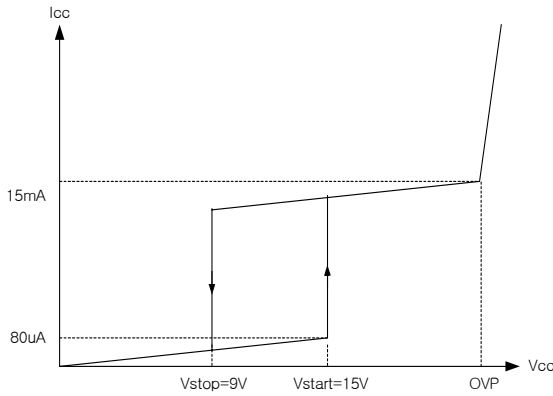

Figure 1. Start up with hysteresis
**1. Start up :** To guarantee stable operation of the control IC, FS8S0765RCB has UVLO circuit with 6V hysteresis band. Figure 1 shows the relation between the supply current ( $I_{cc}$ ) and the supply voltage ( $V_{cc}$ ). Before  $V_{cc}$  reaches 15V, the FPS consumes only startup current of  $80\mu A$ , which is usually provided by the DC link through start-up resistor. When  $V_{cc}$  reaches 15V, the FPS begins operation and the operating current increases to 15mA as shown. Once the control IC starts operation, it continues its normal operation until  $V_{cc}$  goes below the stop voltage of 9V